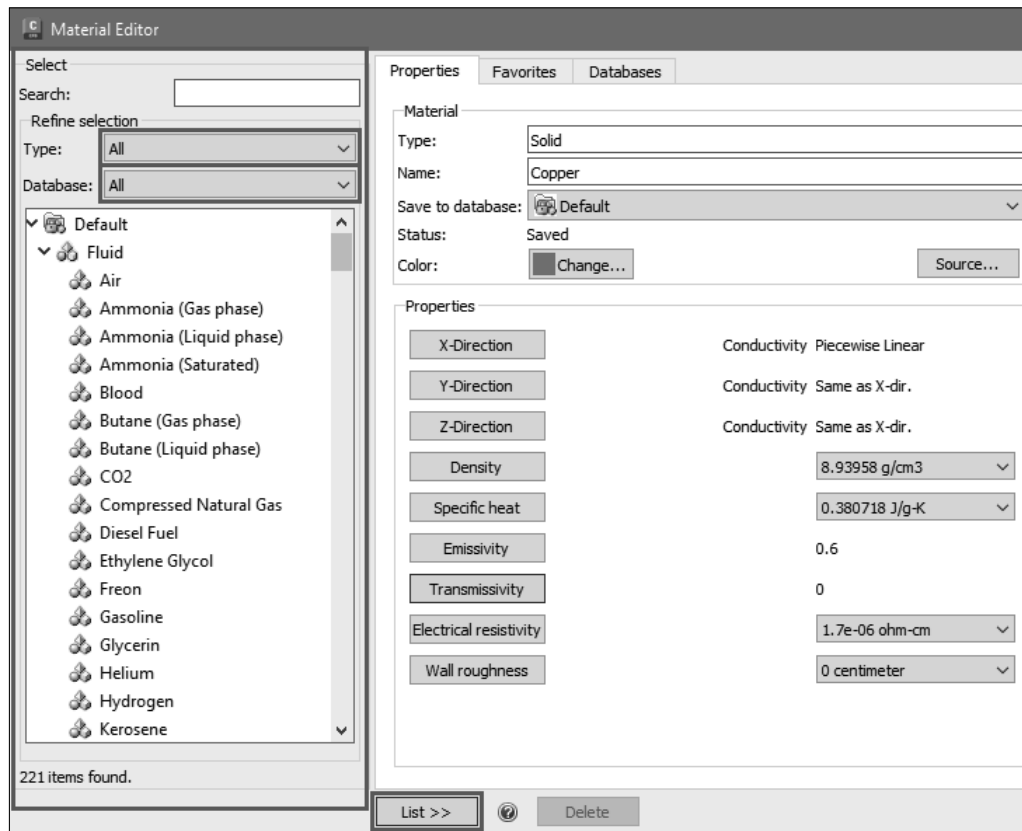

Figure-16. List button
- Click on the **<<List** button from **Material Editor** dialog box to view the list of all fluid present in Autodesk CFD; refer to Figure-16.